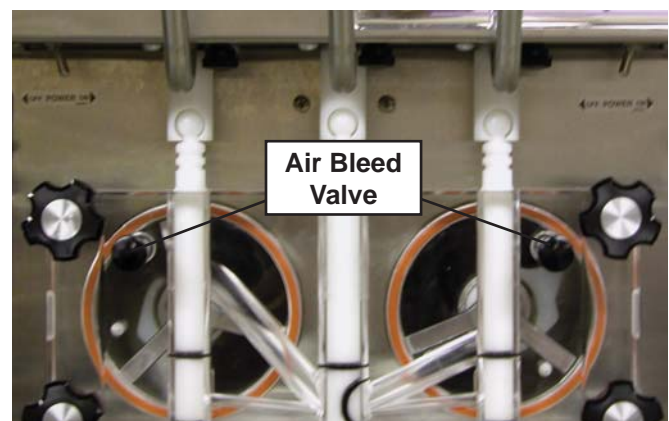

Figure 3-13 Air Bleed Valves
7. Open the air bleed valve on the front door by pressing and holding (Fig. 3-13). Hold the valve open until the mix level in the freezing cylinder is 1/2" from the air bleed valve.